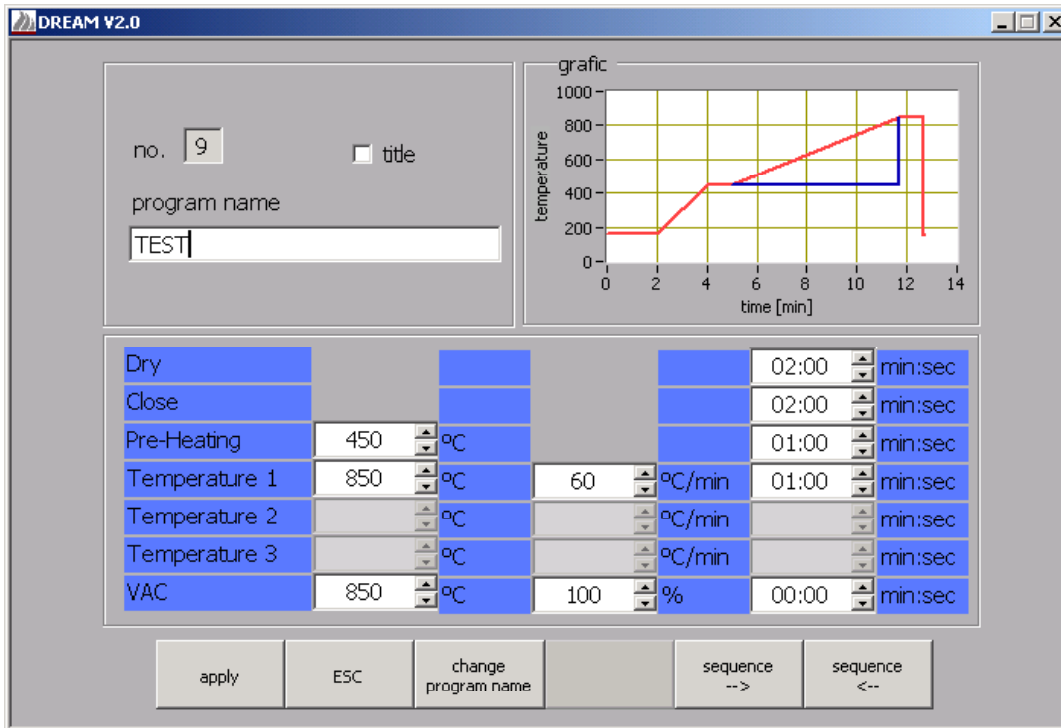
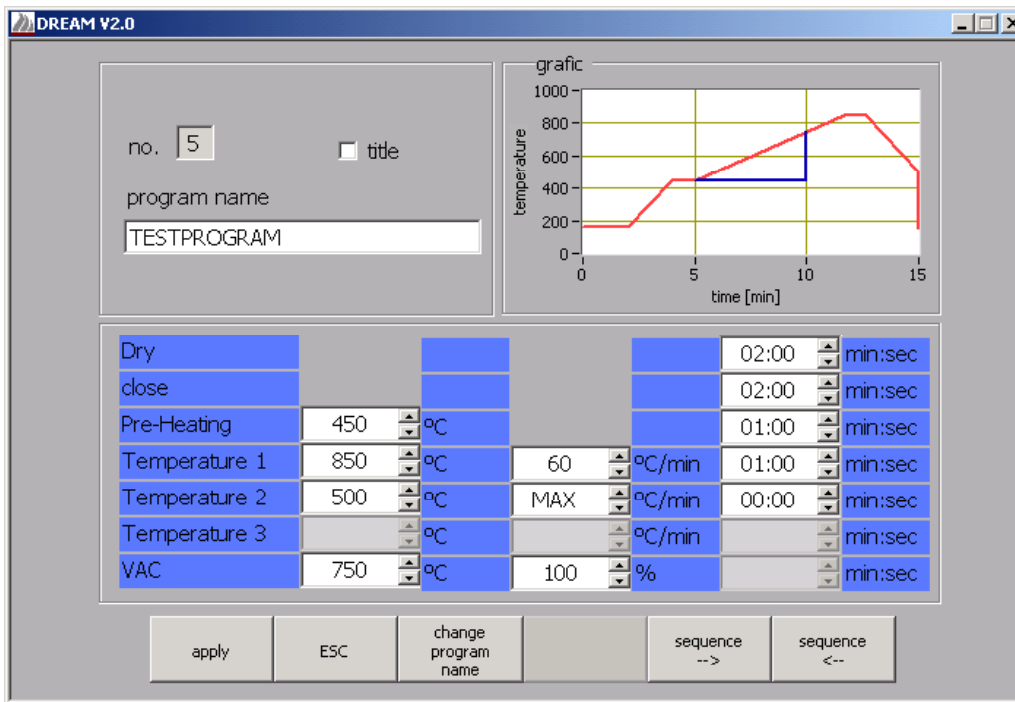

Fig.15: D4 Editor
Fig. 16: D4 program example
- ¶ The vacuum entered in the field "VAC Level" is generated after the preheating step, that is, after the preheating temperature is reached and the preheating period is over. In Fig. 16, this is 5 minutes. The vacuum is held until the temperature in the "VAC" field is reached. In Fig. 16, the vacuum end temperature is the same as temperature 1 (termed T1 in the following). Hence when T1 is reached, the firing chamber is flooded.
- ¶ Since a hold time is stipulated after T1 is reached (in Fig. 15, 1:00 minute is entered on the right in the T1 line), a maximum vacuum holding time of 1:00 minutes can be entered. It is not possible to enter a vacuum holding time when the vacuum end temperature lies within a rise period, i.e., not on a temperature plateau (see Fig. 16). The vacuum end temperature is reached after 10 minutes, but the temperature continues to rise. For this reason, there can be no vacuum holding time when the temperature remains constant.
- ¶ In the example in Fig. 16, we can also see that the chamber is flooded upon first reaching the VAC temperature, even when the temperature curve again reaches the VAC temperature of 750°C after approx. 13 minutes.